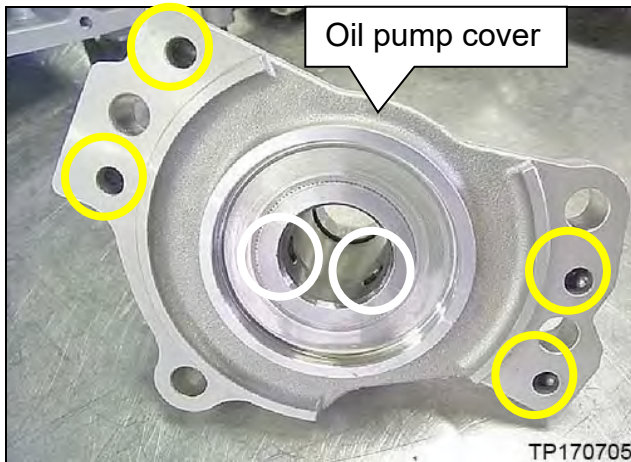

Figure 11L
- d. Spray brake cleaner into the oil pump cover oil passages indicated in yellow shown in Figure 11L.
**CAUTION:** Do not face the passage indicated in white in Figures 11L and 12L while cleaning.